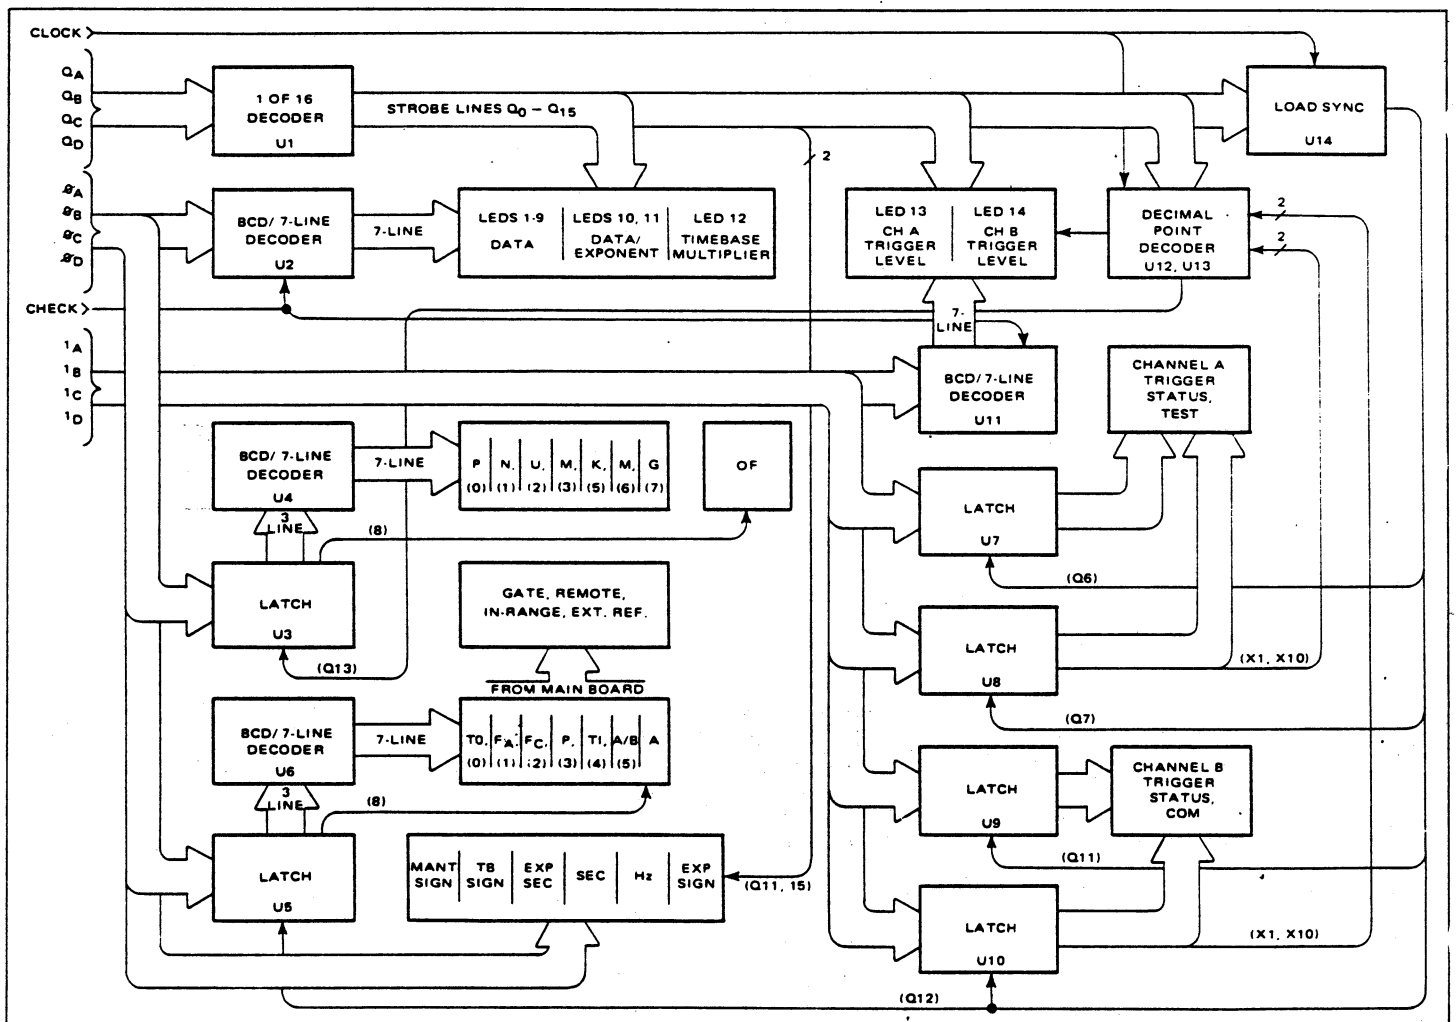

Figure 4.17 - Display Board Block Diagram
4.4.6.1 The display board, shown in block form in figure 4.17, is mounted directly behind and is in parallel with the instrument front panel. On the board are all of the visual readouts along with the drivers, decoders, latches, and synchronizing circuitry required to control the readouts. Most of the input data for the display board is supplied in multiplex form across 12 lines from the microprocessor board.